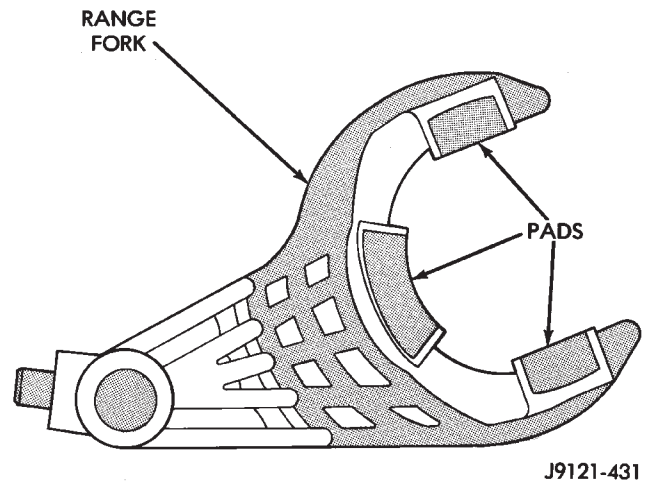

Fig. 50 Range Fork Pad Locations
(5) Inspect pads on range fork (Fig. 50). Be sure pads are secure and in position. Replace fork as an assembly if pads are worn through, or broken.